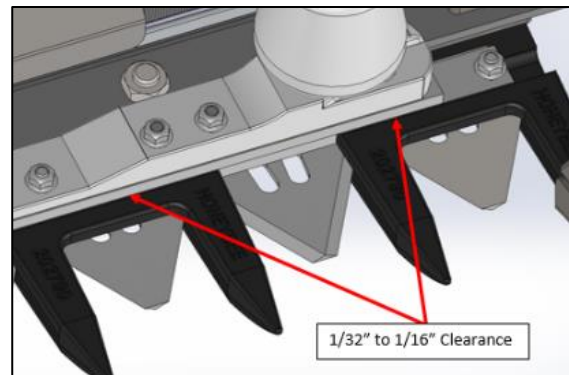

Figure 130
10. Clearance between the guard and the knife back should be 1-32" to 1/16" Figure 130